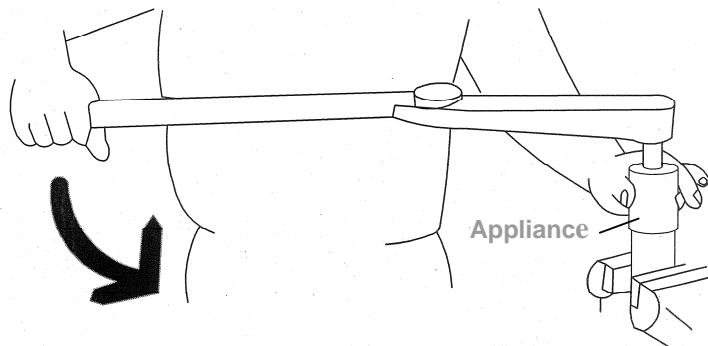

Fig. 7
**(3) Pulse Unit Disassembly:**
- ① Fix the pulse unit by a vise. Use the appliance (see Table 1) to loosen the lock nut on the pulse unit, Fig. 7.